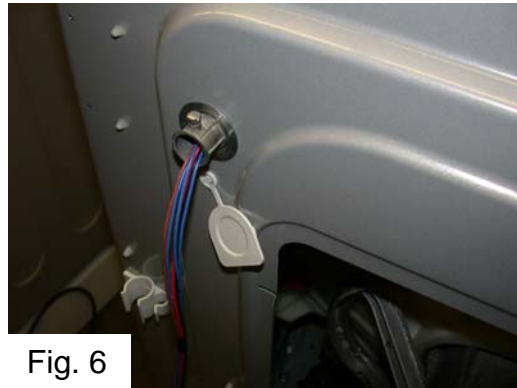

Fig. 6
- Feed the liquid supply harness leads through the  $\frac{3}{4}$ " electrical knockout fitting, and into an appropriate external protective wireway (EMT, metallic sheath, or other code-compliant wireway) to the liquid supply pump (Fig. 6). NOTE: It is the installer's responsibility to ensure that installation methods comply with all applicable codes.